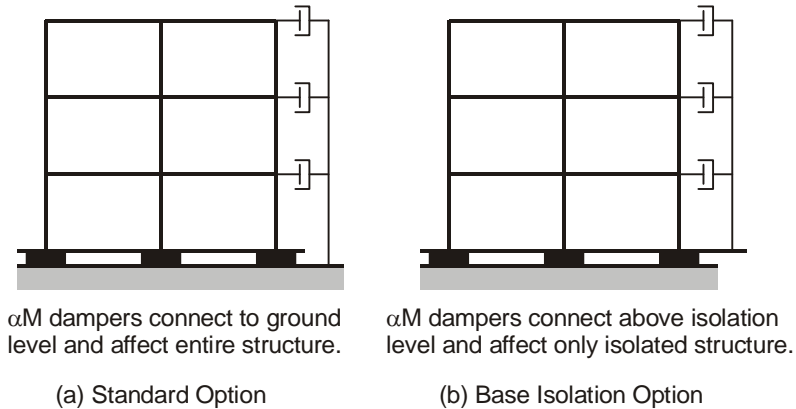

Figure 18.3 Alternative  $\alpha M$  Damping Models
If you specify  $\alpha M + \beta K$  damping for a structure with seismic base isolation, the physical meaning of the model is as shown in Figure 18.3(a). In this case the  $\alpha M$  dampers connect the structure masses to the ground level, below the isolation level. This may not be what you intend, since it can overestimate the amount of damping. An alternative model is shown in Figure 18.3(b). In this case the  $\alpha M$  dampers connect the structure masses to the level immediately above the seismic isolators, so that the  $\alpha M$  part of the damping applies only to the isolated part of the structure.
- (1) Only the H masses are connected as shown in Figure 18.3(b). If there are any V or R masses, the  $\alpha M$  dampers for these masses are connected to the ground.
- (2) The  $\beta K$  damping model does not change.
- (3) You must have a rigid floor constraint at the level immediately above the isolators. The  $\alpha M$  dampers connect to this level.